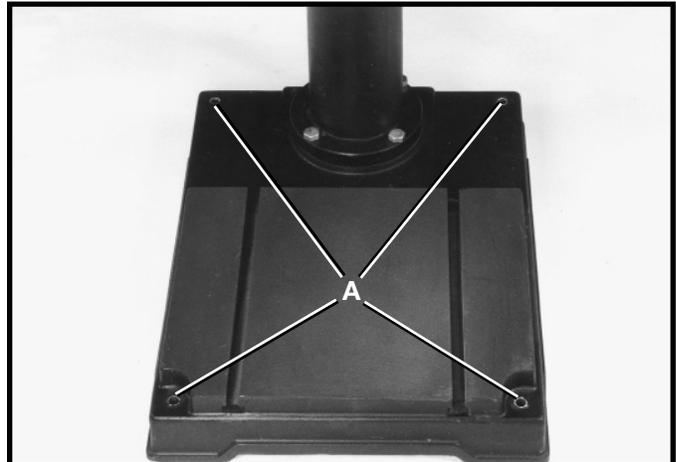
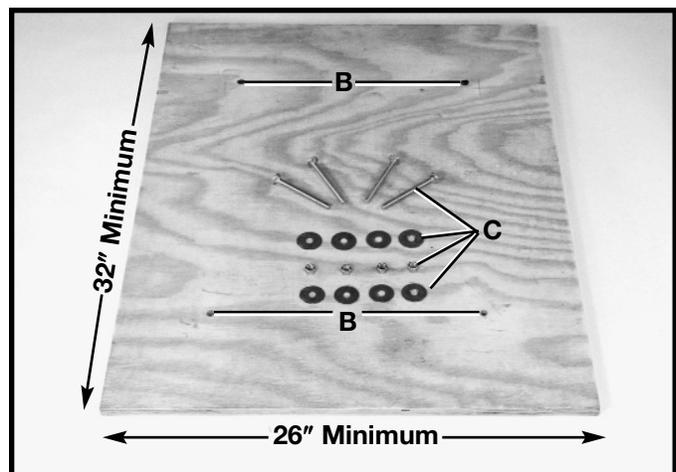

Fig. 16
Fig. 17
1. If your drill press is to be used in one permanent location, the drill press base must be secured to the supporting surface with fasteners through the four mounting holes, (A) Fig. 16, in the drill press base.
2. Use a plywood board base with the minimum dimensions shown in Fig. 17 for mounting the drill press to a supporting surface.
4. Drill four 3/8" diameter holes (B) Fig. 17, corresponding to the mounting holes (A) Fig. 16, of the drill press base in a 26" x 32" minimum size plywood board.
5. Fasten the drill press base to the mounting board using the carriage bolts, nuts, and washers (C) Fig.17, furnished with your drill press. For stability, the holes for the carriage bolt heads and flat washers must be countersunk so the bolt heads are flush with the bottom surface of the mounting board.